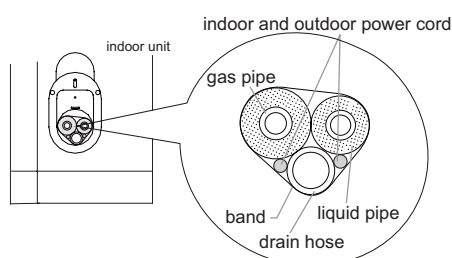

Fig.14
1. Bind up the connection pipe, power cord and drain hose with the band.(As show in Fig.14)